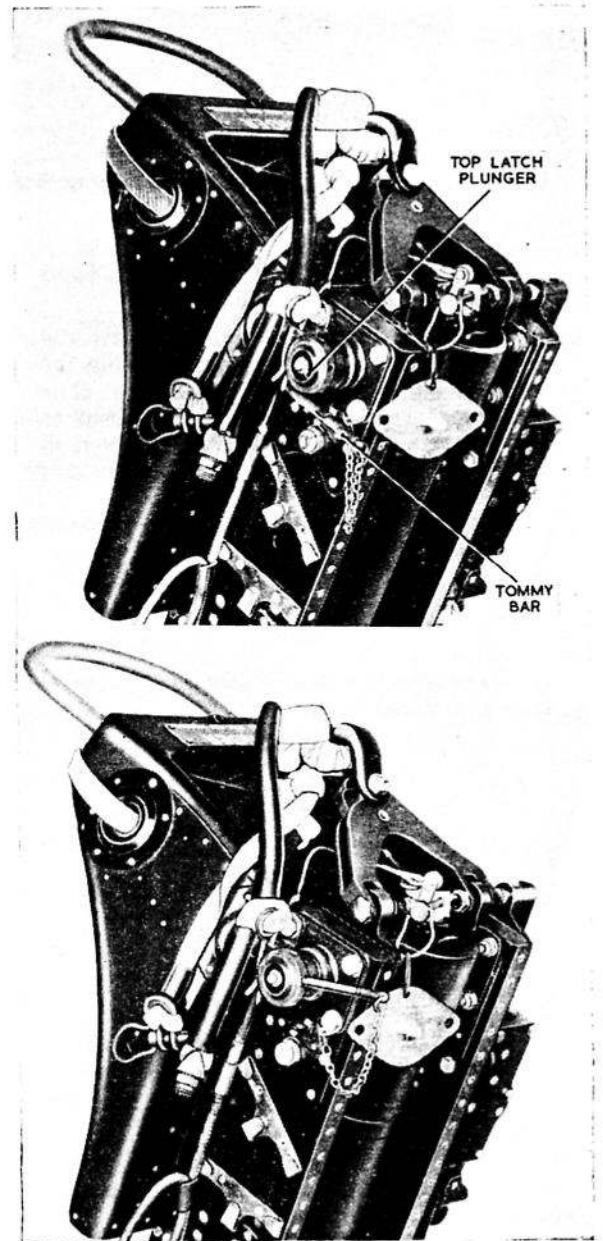

Fig. 3. Top latch plunger
- (2) Disconnect the intercom. lead and the main and emergency oxygen connections.
- (3) Disconnect the barostatic time-release unit static rod from the bracket on the guide rail.
- (4) Disconnect the leg restraining cords by removing the two quick-release pins from the brackets on the cockpit floor.
- (5) Remove the tommy bar from its stowage (fig. 3), place it in one of the holes in the top latch plunger, and turn the plunger anti-clockwise.
- (6) Withdraw the sear locking pin which is interconnected with the canopy.
- (7) Lift the seat up the guide rail.